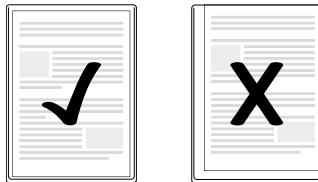

Fig. 1
- Ensure that all edges of the document have at least two millimetres of space to the edges of the laminating pouch, as shown in Fig. 1.